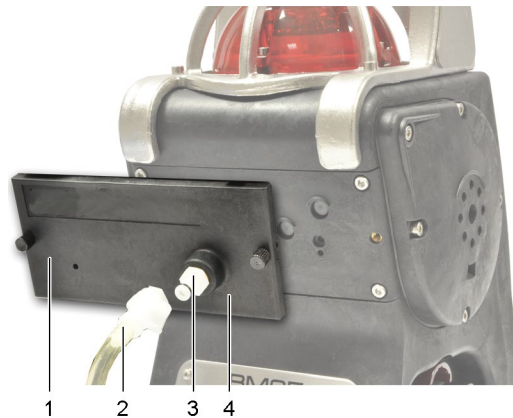

Figure 16: positioning the sensors cover (BM 25A/AW non-equipped with an electric pump)
- ■ Place and screw the cover over the sensors (Figure 16: positioning the sensors cover (BM 25A/AW non-equipped with an electric pump)ref. 1); this cover has no hump as previously mentioned (ref. 4).
- ■ Connect the sample line (ref. 2) to the gas inlet (ref. 3).